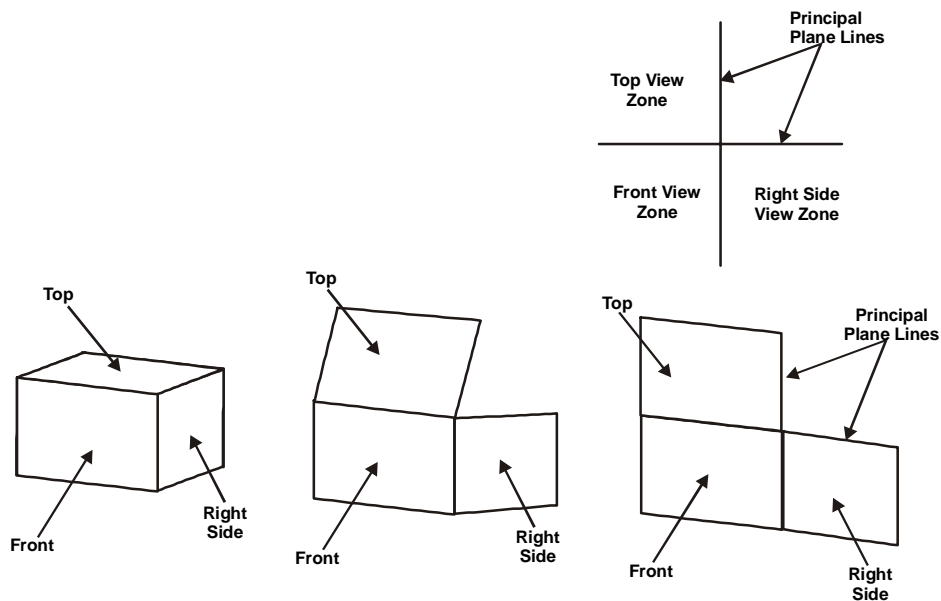

Figure 3-19. Principal plane lines and how they were developed initially.
- a. Drawings are divided into zones. Each zone contains one orthographic view with all the information for that view. The zones are separated by crossed-construction lines called principal plane lines which are similar to a mathematical coordinate system. They are omitted on finished drawings. See Figure 3-19.